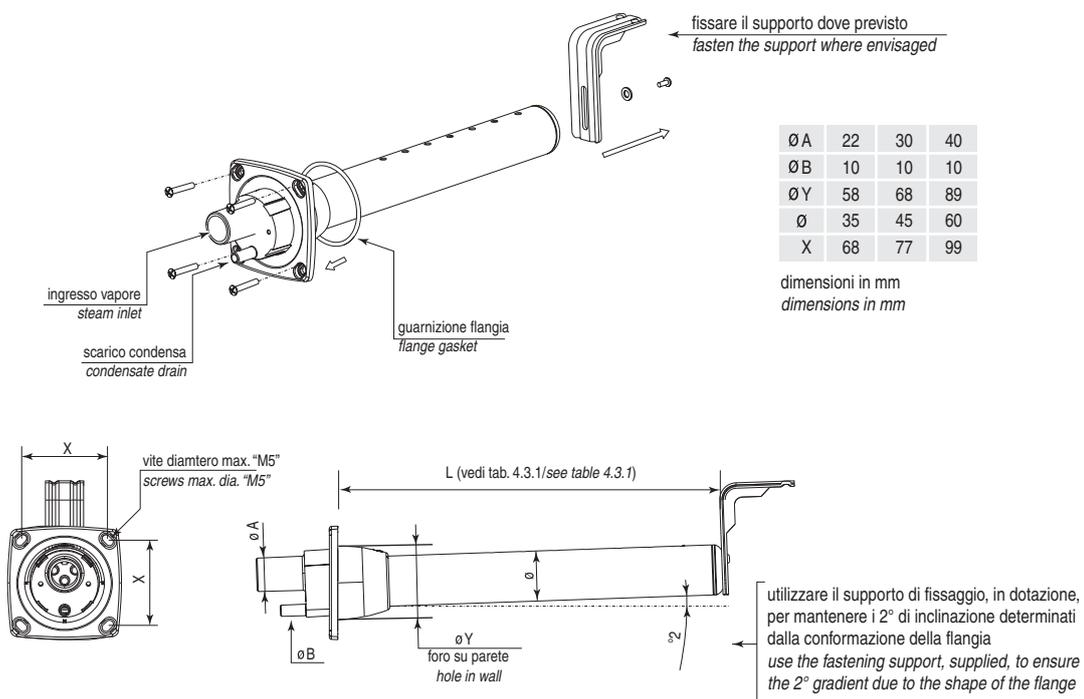

Fig. 4.3.1
The humidifier may be used for small ducts with a static pressure of no greater than 500 Pa. For steam distribution into air ducts, the steam distributor must be sized according to the output of the humidifier and the cross-section of the ducting. For this purpose, CAREL supplies two ranges of linear distributors: one in aluminium, with plastic ends. Figures 4.3.1 provide the dimensions of the CAREL distributors, while table 4.3.1 specifies the minimum number and the model of the distributor recommended for the type of humidifier used.
- praticando sulla parete del canale una serie di fori secondo la dima di foratura indicata nelle Fig: 4.3.1;
- making a series of holes in the wall of the duct according to the drilling template indicated in Fig: 4.3.1;